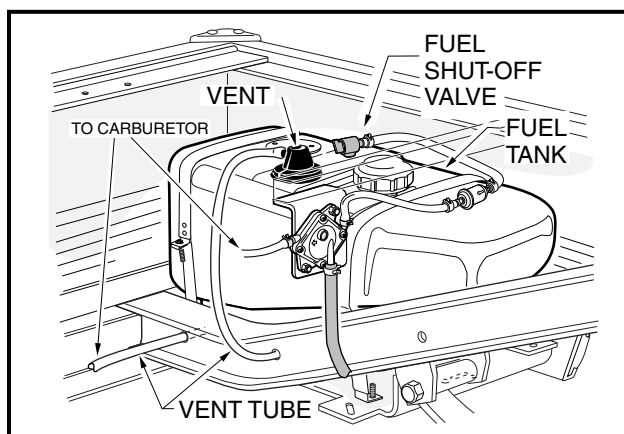
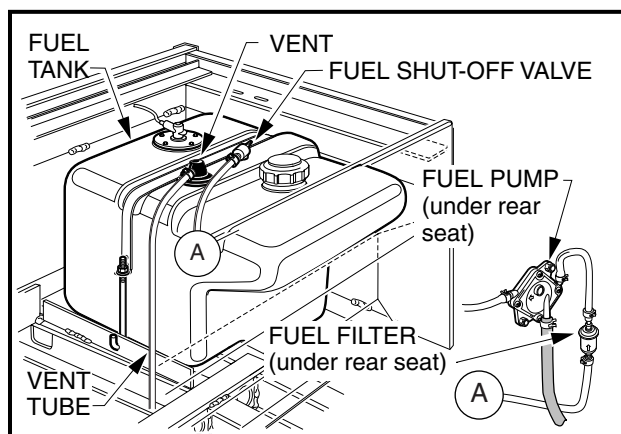

Figure 27 Fuel Tank – Pioneer 1200
Figure 28 Fuel Tank – Pioneer 1200SE
- If the vehicle has an all-weather enclosure installed, be sure the fuel tank is properly vented as shown (Figure 27, Page 37 or Figure 28, Page 37).